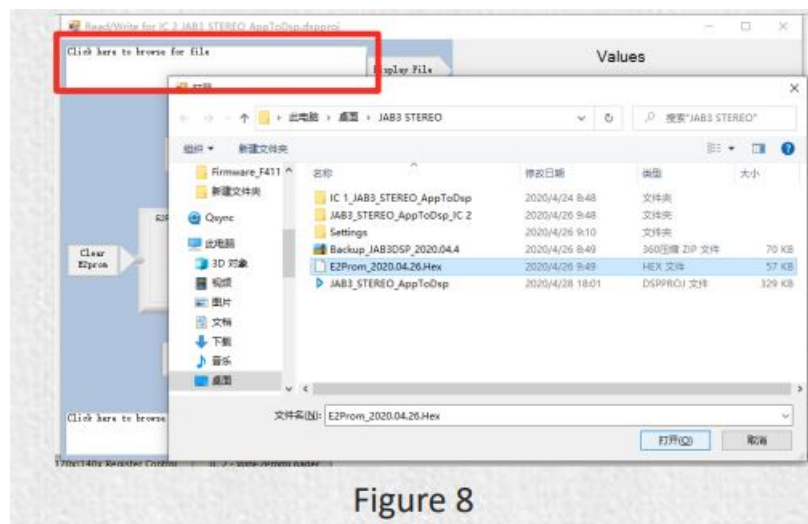
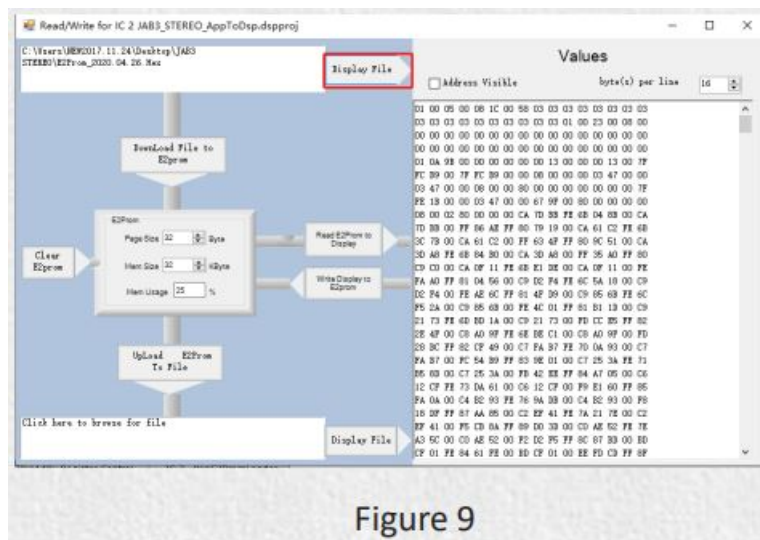

Figure 8
Figure 9
2. Click 'Click here to browse for file' and select firmware file (Figure 8). Then click 'Display File' like Figure 9.